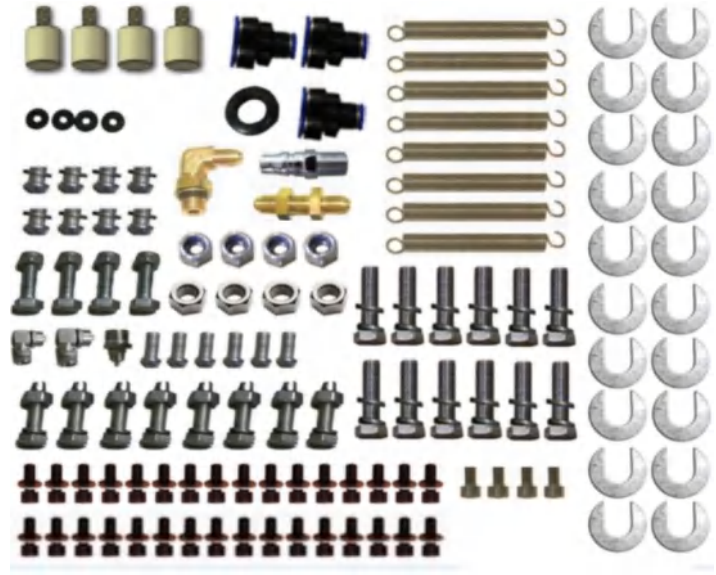

Fig. 10
7. Open the parts box and check the parts according to the parts box list (**See Fig. 10**).